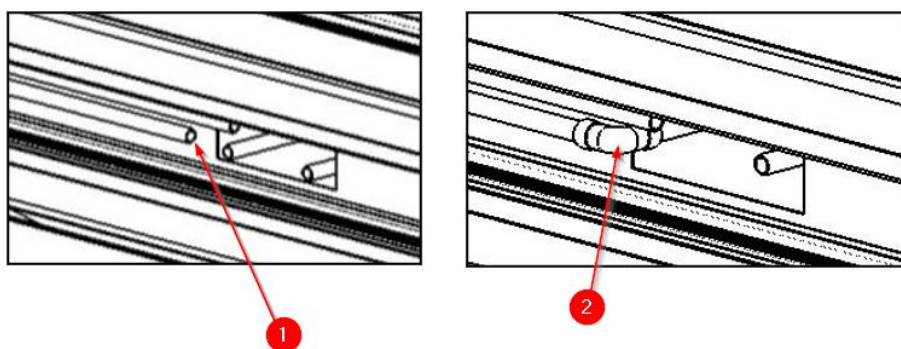

Fig.10 Cutting of pipes and fitting of copper fittings
Once the installation pipe and the equipment pipe have been identified and it has been verified that they correspond to the same circuit, both can be cut to the appropriate size (1) and the appropriate copper fitting can be added to make the joint (2). The soldering can now be carried out (See Fig. 10).